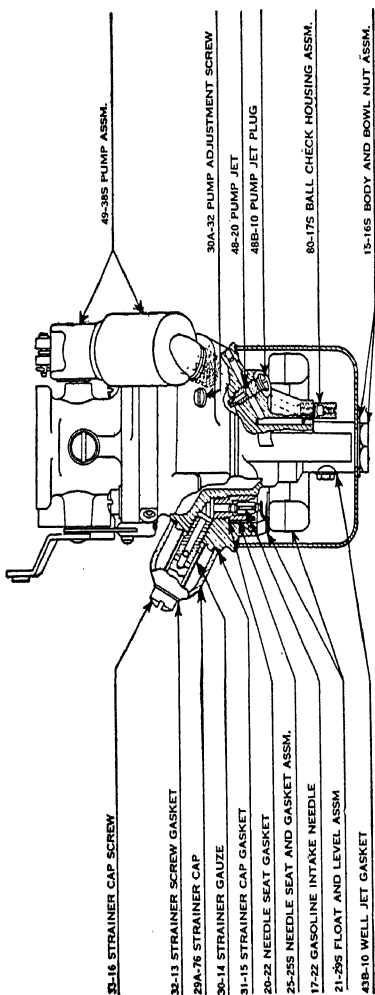

Fig. 143. Part Section View of Plymouth Carburetor
*Accelerating Pump.* When the throttle valve is closed, the cylinder of the gasoline pump, Fig. 143, is filled with gasoline through a ball check in the housing assembly. This ball check automatically closes when the throttle is opened, air is compressed in the plunger, and a fine spray of gasoline is forced through the pump jet into the venturi tube. This gives what is termed a delayed action. Several seconds are required to discharge the contents of the pump, thus supplying sufficient gasoline for the accelerating period.
The pump adjustment screw, Fig. 143, is located in the body of the casting at the base of the pump cylinder and regulates the amount of gasoline sprayed into the venturi when the throttle is opened. Turning this screw in increases the amount of gasoline discharged through the pump jet.